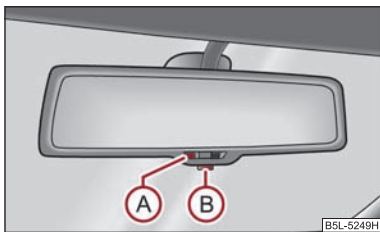

Fig. 53 Automatic dimming interior mirror
- Press the button (B) ⇒ fig. 53, the warning light (A) lights up.